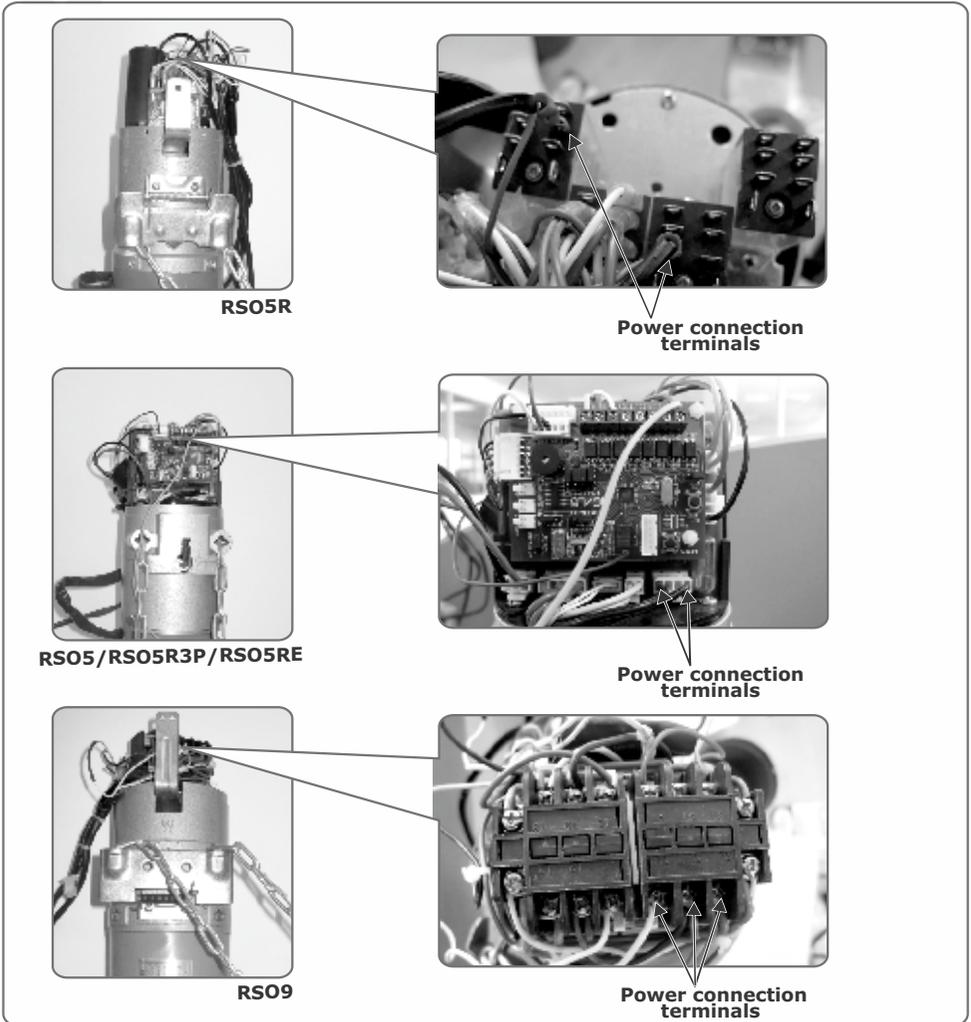

FIGURE 44. POWER CONNECTIONS
- To completely disengage the gearbox, simply pull the manual override pin towards you, as indicated in Figures 44, 45 and 46. This will cause the operator's gearbox to be overridden and the door can then be operated by hand